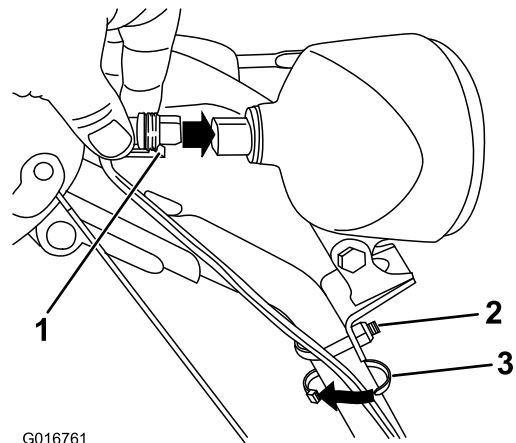

Figure 18
1. Insert the wire connector on the loose end of the wire straight into the back of the headlight until it is securely in place (Figure 18).
Note: Ensure that the plastic clip on the wire connector is on the bottom (Figure 18).
2. Secure a cable tie (from the loose parts bag) around the wire and the handle about 2.5 cm (1 inch) below the U-bolt (Figure 18).